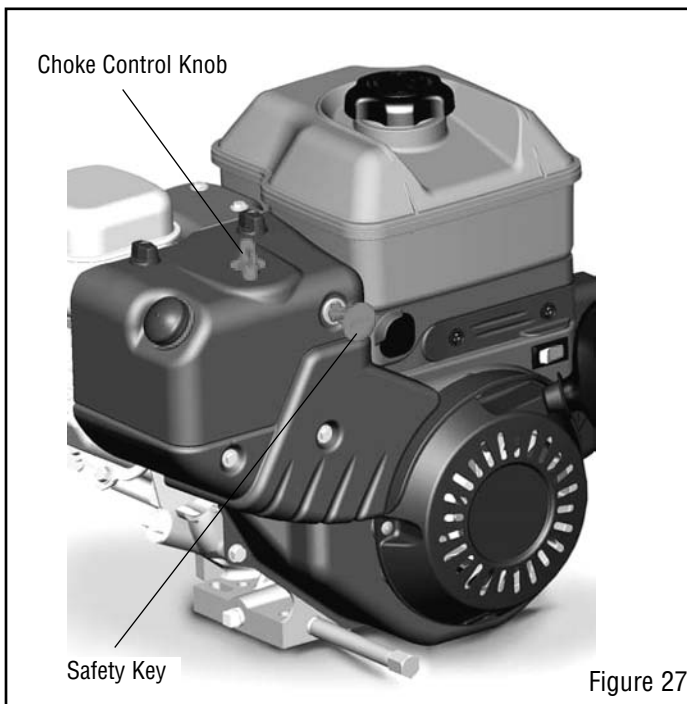

Figure 27
1. Remove the choke control knob (see Figure 27).